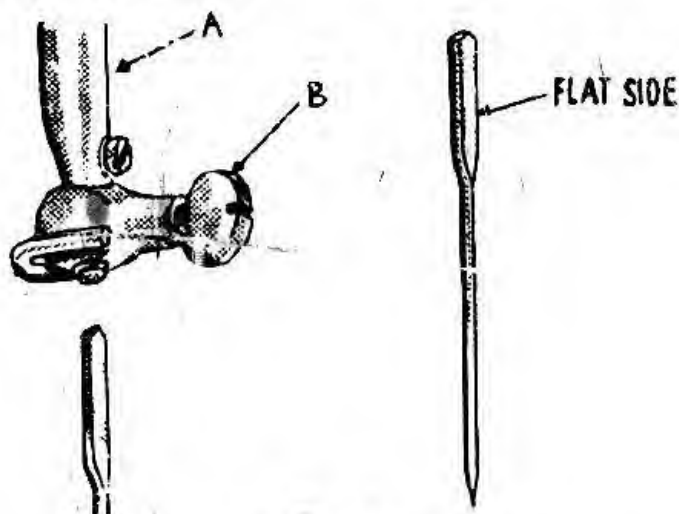

Fig. 1
Turn Balance Wheel towards you until **NEEDLE BAR** Fig 1 (A) is at its highest point, then loosen the **NEEDLE CLAMP SCREW** Fig 1 (B). Hold needle with point down and insert needle with the flat surface to the right into the needle clamp as far as it will go. Then tighten the Needle Clamp Screw.